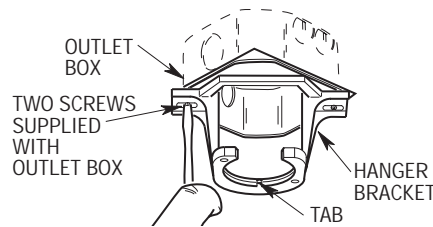
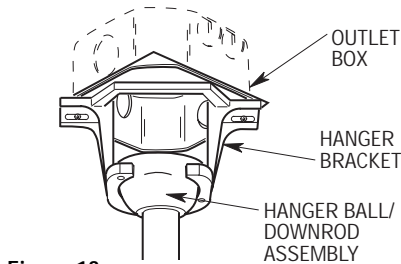

Figure 12
Figure 13
1. Securely attach the hanger bracket to the outlet box using the two screws supplied with the outlet box (Figure 12).
2. Carefully lift the fan and seat the hanger ball/downrod assembly on the hanger bracket that was just attached to the outlet box (Figure 13). Be sure the groove in the ball is lined up with the tab on the hanger bracket (Figure 12).